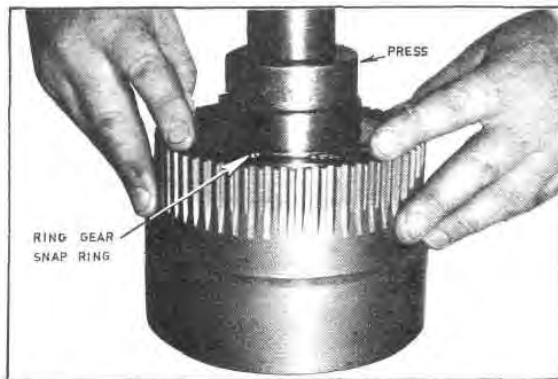

Fig. G63 — Installing the Ring Gear Snap Ring
22. While maintaining the load on the arbor press, assemble the ring gear snap ring (Figure G63). Tap with a soft tool to ensure the proper seating of the snap ring in the groove.